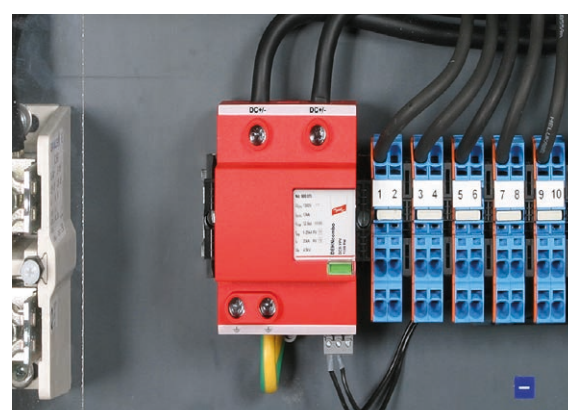

Figure 6 DEHNcombo YPV type 1 combined arrester for protecting photovoltaic systems from surges and partial lightning currents
With their proven fault-resistant Y circuit, DEHNcombo YPV (FM) combined arresters (**Figure 6**) fulfil the above mentioned requirements. PV generators with up to 10,000 A can be protected by DEHNcombo YPV (FM) without an additional backup fuse. This arrester combines a lightning current arrester and a surge arrester in a single device, thus ensuring efficient protection of terminal equipment. With its discharge capacity I_{total} of 12.5 kA (10/350 µs), it is very flexible and can even be used for the